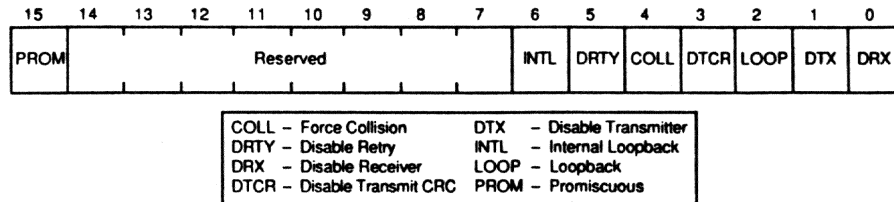

Figure 5-5: MODE Field Bit Allocation
5.2.3.1 Mode Field - The Mode field has 16 bits, and allows the MicroVAX to modify the LANCE's operating parameters. In normal operation, this field is clear. Its main use is for test software such as the DEC MicroServer's on-board test (see Chapter 12). Figure 5-5 shows the allocation of bits in the MODE field, and Table 5-3 gives more information on each bit.